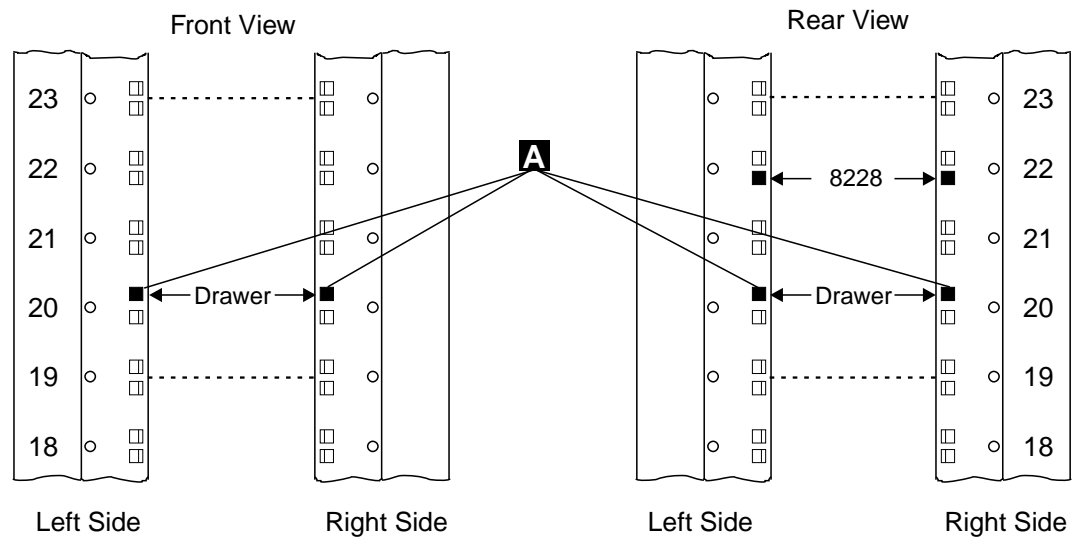

Figure 1-9. Installing Captive Nuts for the Service Drawer
10. ____ Refer to Figure 1-9, and if needed install four captive nuts **A** (PN 58G5766) on the front and on the rear side of the controller expansion.